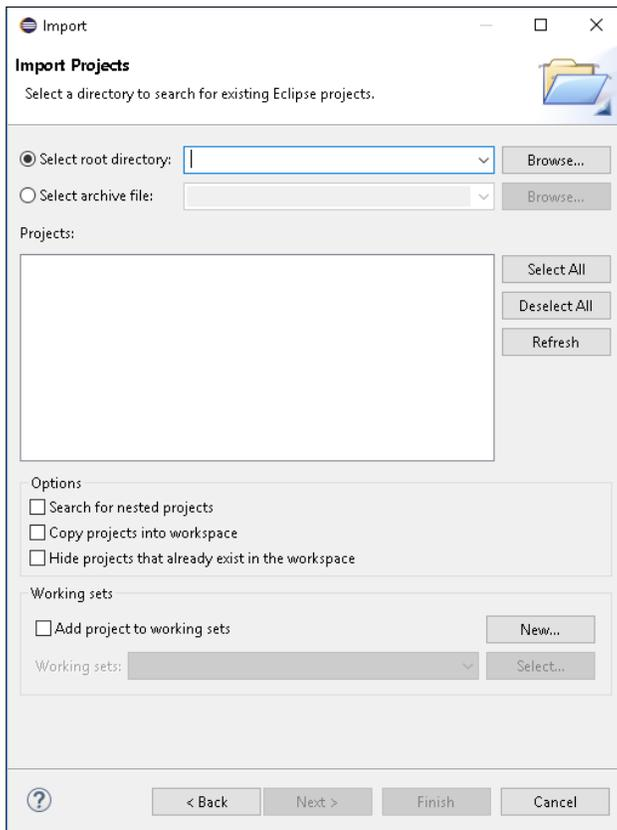

Figure 18. Import Projects dialog box.
10. Click **Next**. The **Import Projects** dialog box appears, as shown in **Figure 18**.